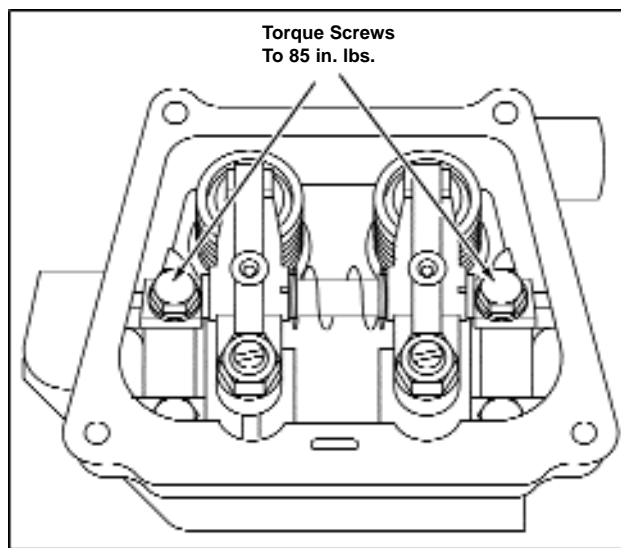

**Figure 97 - Installing Rocker Balls and Screws, Typical**
3. Place rocker arms on studs and install rocker arm nut and screw while holding rocker arm against valve cap and push rod until rocker ball is finger tight, Figure 97.